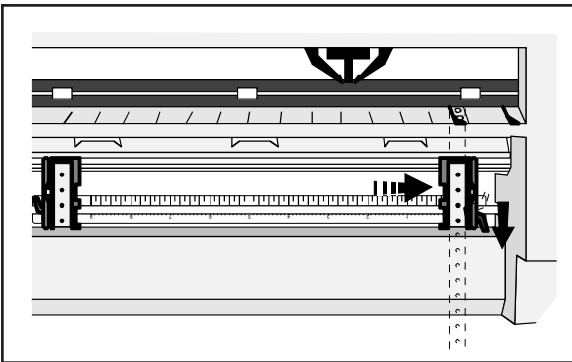

Figure 3-6. Aligning the Left-Edge Tractor
4. Slide the left-edge tractor as needed so that the pin belt aligns with the circles on the paper scale. Then, lock the left-edge tractor into place, as shown in figure 3-6.